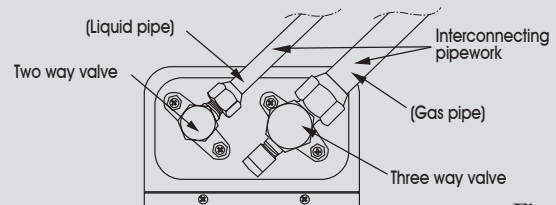

Figure 16
- Tighten the flare nut of the connection pipe at the outdoor unit valve. ( Figure. 16 )